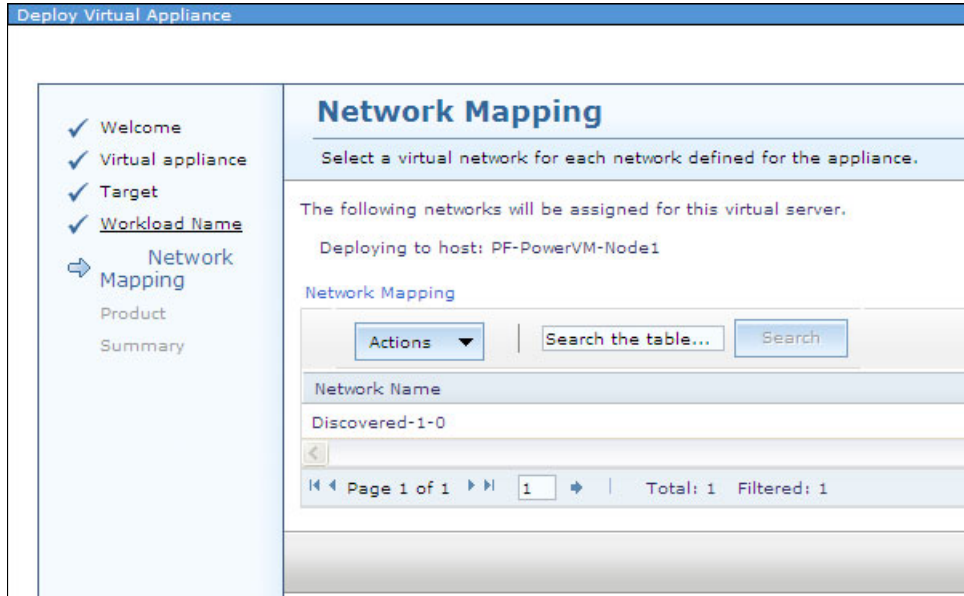

Figure 10-146 Network Mapping window
6. Figure 10-146 shows the networking mapping. Click **Next**.